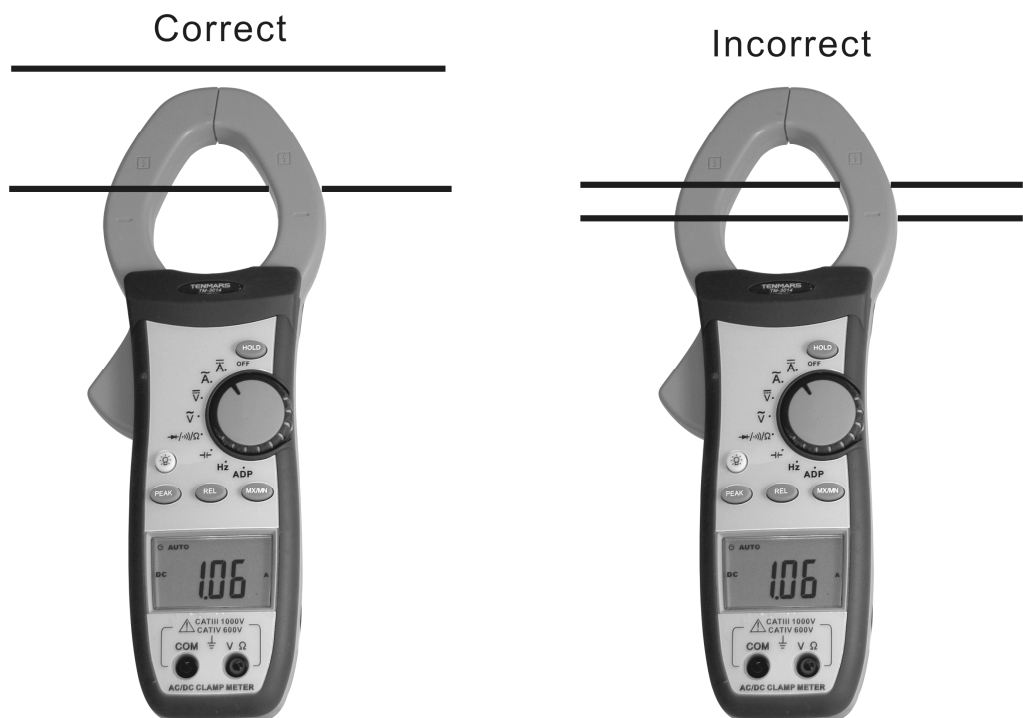

Fig. 3: Use of clamp during DC current measurement
3. Open the clamp and put the tested conductor in the center of the clamp jaw taking care to comply with the current flow shown in the label placed inside the Inductive clamp jaw and indicates.FIG.3.